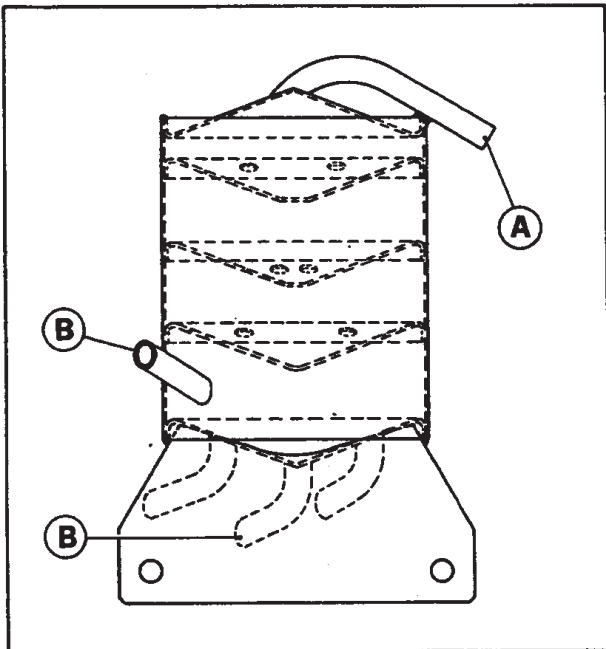

Fig. 21 - LIQUID VAPOR SEPARATOR
- Tank outlet line and vapor-liquid separator (see fig. 21).